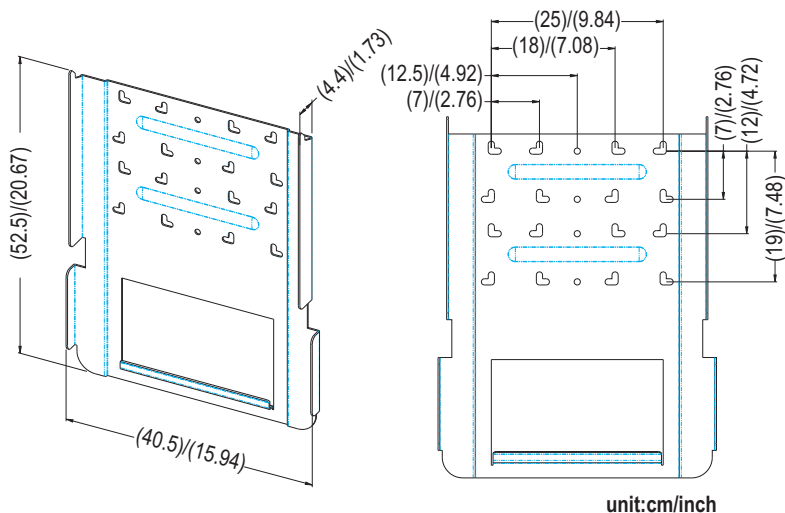
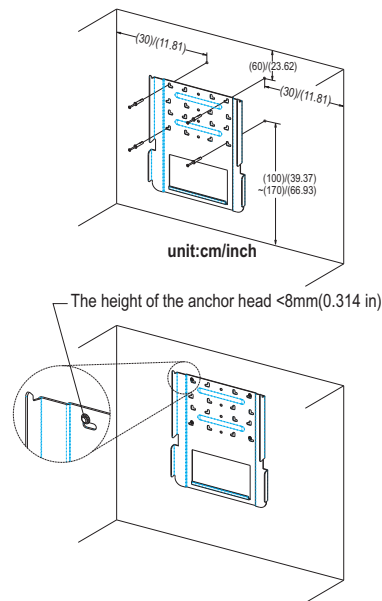

Fig. 2.2.2 Inverter mounting bracket
Fig. 2.2.3 Fasten the mounting bracket
2. Use the mounting bracket (figure 2.2.2) as a template to mark the location of the holes to be drilled in the wall. After drilling the holes, the mounting bracket is then held against the wall and fastened to the wall with anchors as shown in the figure 2.2.3. (A minimum of three (3) screws is required)